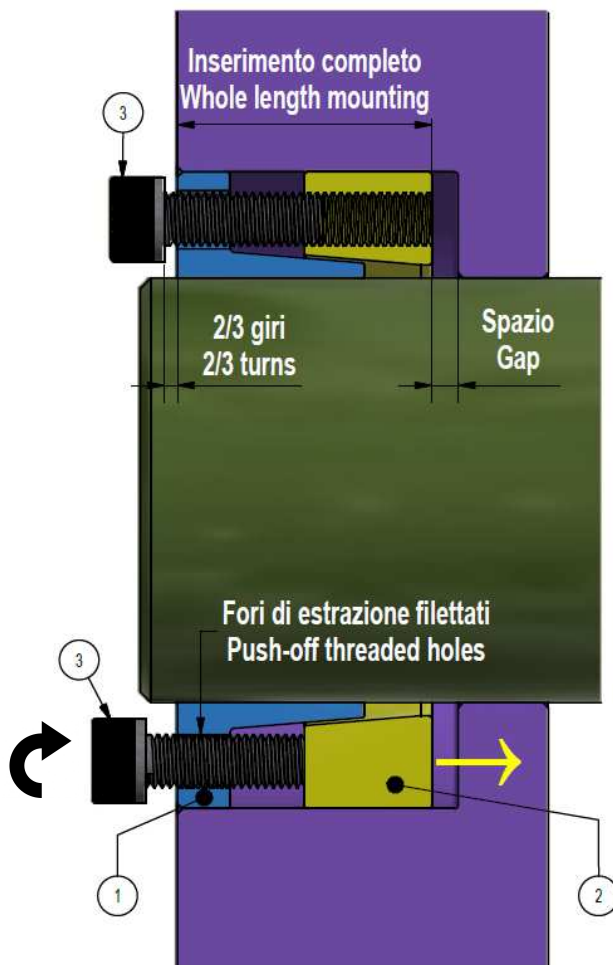

Fig. 2. Disengagement of locking rings and positioning of Locking Assembly.
2. **For ease of installation, locking rings shall be disengaged** (fig. 2). Loosen all screws by two/three turns; then transfer and hand-tighten at least two screws into the push-off threaded holes in the inner ring.
3. Insert Locking Assembly into the hub bore and make it slide onto the shaft, making sure that connected components are positioned as required. **Inner and outer rings shall be completely supported by shaft respectively hub bore** (fig. 2). **MAV 1062 shall be COMPLETELY (whole length) mounted inside of the hub bore** (fig. 2), to avoid bending of inner ring's flange. At this point, relocate the screws used to disengage the locking rings. Installation into hubs with shoulder requires a few mm's gap between outer ring and shoulder (fig. 2).